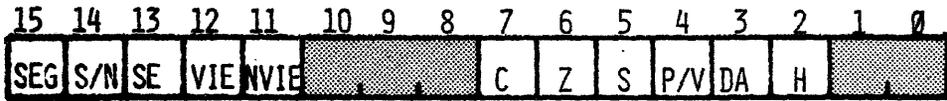
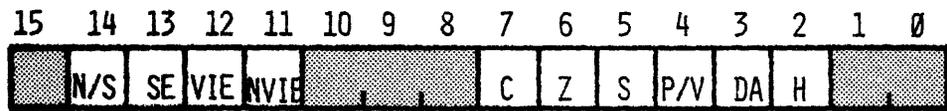

FIGURE 5 AmZ8001 FLAG AND CONTROL WORD
FIGURE 6 AmZ8002 FLAG AND CONTROL WORD
The contents of the program counter and FLAG AND CONTROL WORD (FCW) are collectively called the Processor Status Information. The FCW of the AmZ8001 is shown in Figure 5. The most significant byte contains five control bits - Segmentation Enable (SEG), Normal/System (N/S), Stop Enable (SE), Vectored Interrupt Enable (VIE) and Non-Vectored Interrupt Enable (NVIE). The least significant byte contains six CPU flag bits - Carry (C), Zero (Z), Sign (S), Parity/Overflow (P/V), Decimal Adjust (DA), and Half Carry (H). The remaining bits are reserved for future expansion. The FCW for the AmZ8002 is shown in Figure 6. It is identical to Figure 5 except that the SEG bit is not available in the AmZ8002.